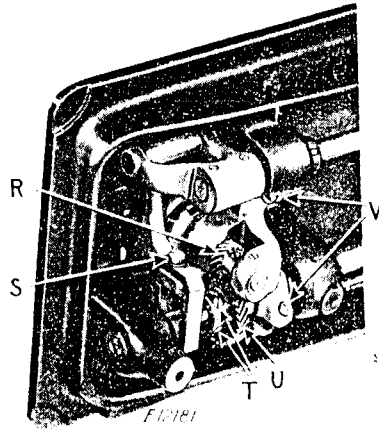

Fig. 18. Adjustment of Hook Saddle
Loosen the two screws (T, Fig.18) in the hub of the hook driving gear (U, Fig.18) and tap this gear to the right or left on the hook driving shaft until the point of the hook is at the center of the needle. Tapping to the right gives an earlier hook timing, and to the left a later hook timing. Securely tighten the two set screws (T) in the gear.
Turn the balance wheel over toward you until the point of the sewing hook is at the center of the needle. Loosen the two screws (V, Fig. 18) underneath the bed of the machine and move the hook saddle to the right or left, as may be required, until the point of the hook is as close to the needle as possible without striking it, then securely tighten the two screws (V).
Remove the throat plate, feed dog and the bobbin case opener. Loosen the two screws in the hook shaft gear (R, Fig. 18) and lift out the sewing hook.
Remove the throat plate; clean the lint and dust from between the feed points and replace the throat plate; tip the machine back and turn the balance wheel towards you until the feed dog is at its highest position; loosen screw (S, Fig. 18) in the feed lifting cam fork on the feed bar and raise or lower the feed dog, as may be required, and retighten the screw (S).